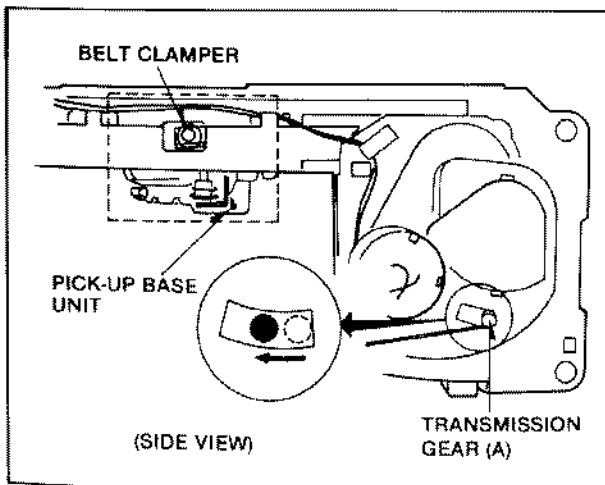

Fig. R16
To move a Forward Belt Pully, move a Transmission Gear (A) to center position of Frame hole as shown in Fig. R16. Then install the Belt Clamper.
2. Install the Optical Pick Up Base Unit to Traverse Unit and then move a Optical Pick Up Base Unit and Belt Clamper by rotating the Belt Pully so that hole of Optical Pick Up Base aligns with hole of Belt Clamper as shown in Fig. R16. Screw on a Optical Pick Up Base Unit.